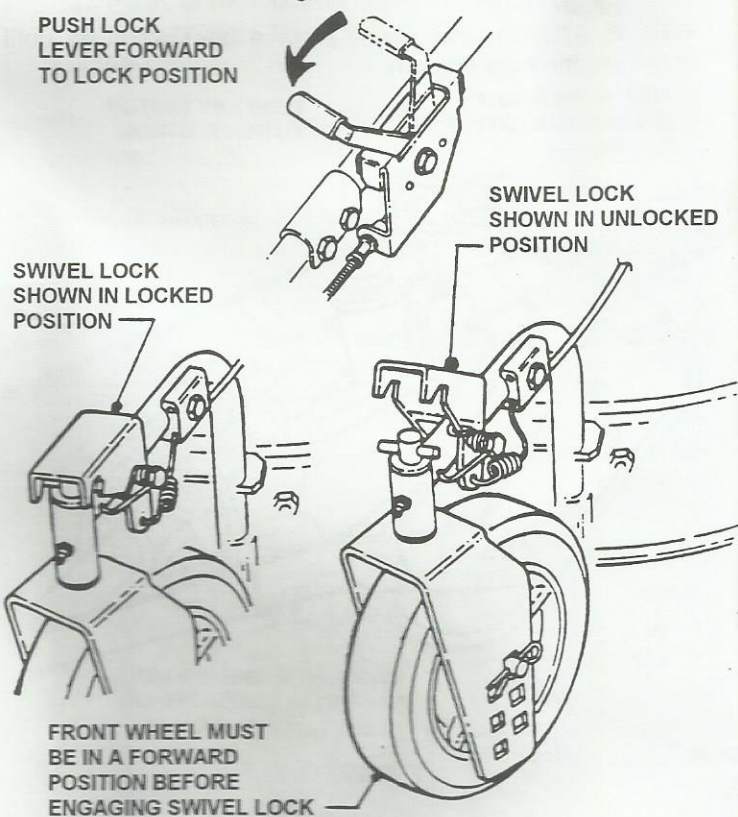

FIGURE 2.9
2. Push wheel lock lever forward to lock swivel wheel in place. Swivel wheel will stay in the forward direction position. See Figure 2.9.